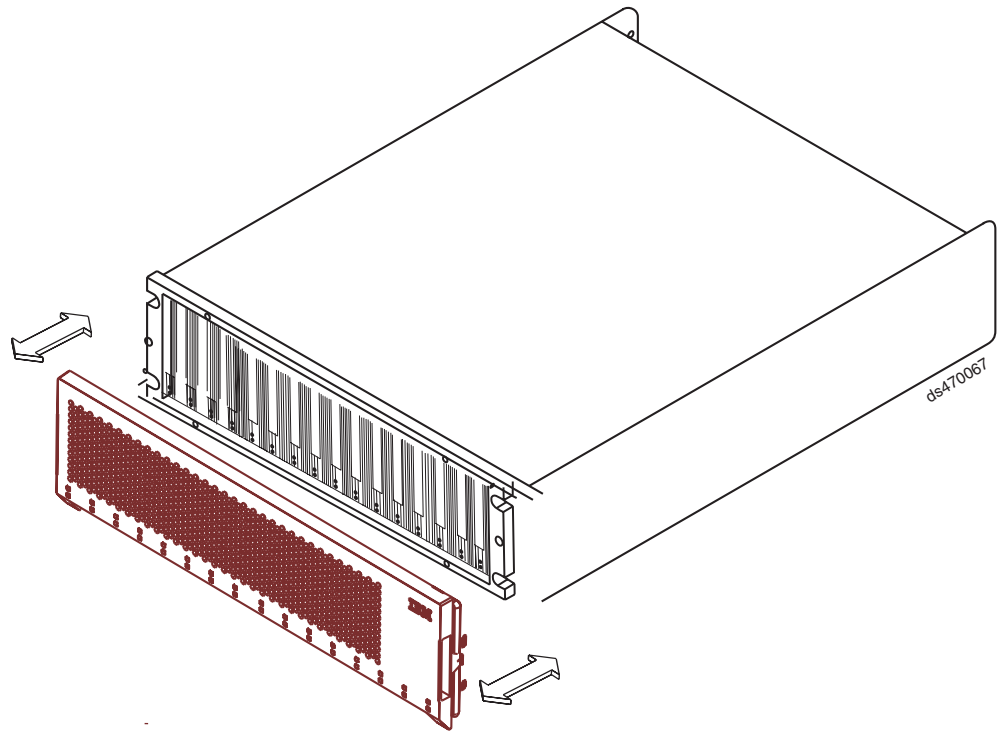

Figure 55. Removing and replacing a bezel
1. Grasp the sides of the bezel and pull it slowly toward you to remove it, as shown in Figure 55 on page 99.
2. To replace the bezel, grasp the sides of the bezel and snap it onto the EXP810 chassis, as shown in Figure 55 on page 99.
1. Remove the bezel by grasping the sides of the bezel and pulling it slowly toward you, as shown in Figure 55.
7. Grasp the sides of the bezel and snap it onto the EXP810 chassis, as shown in Figure 55.